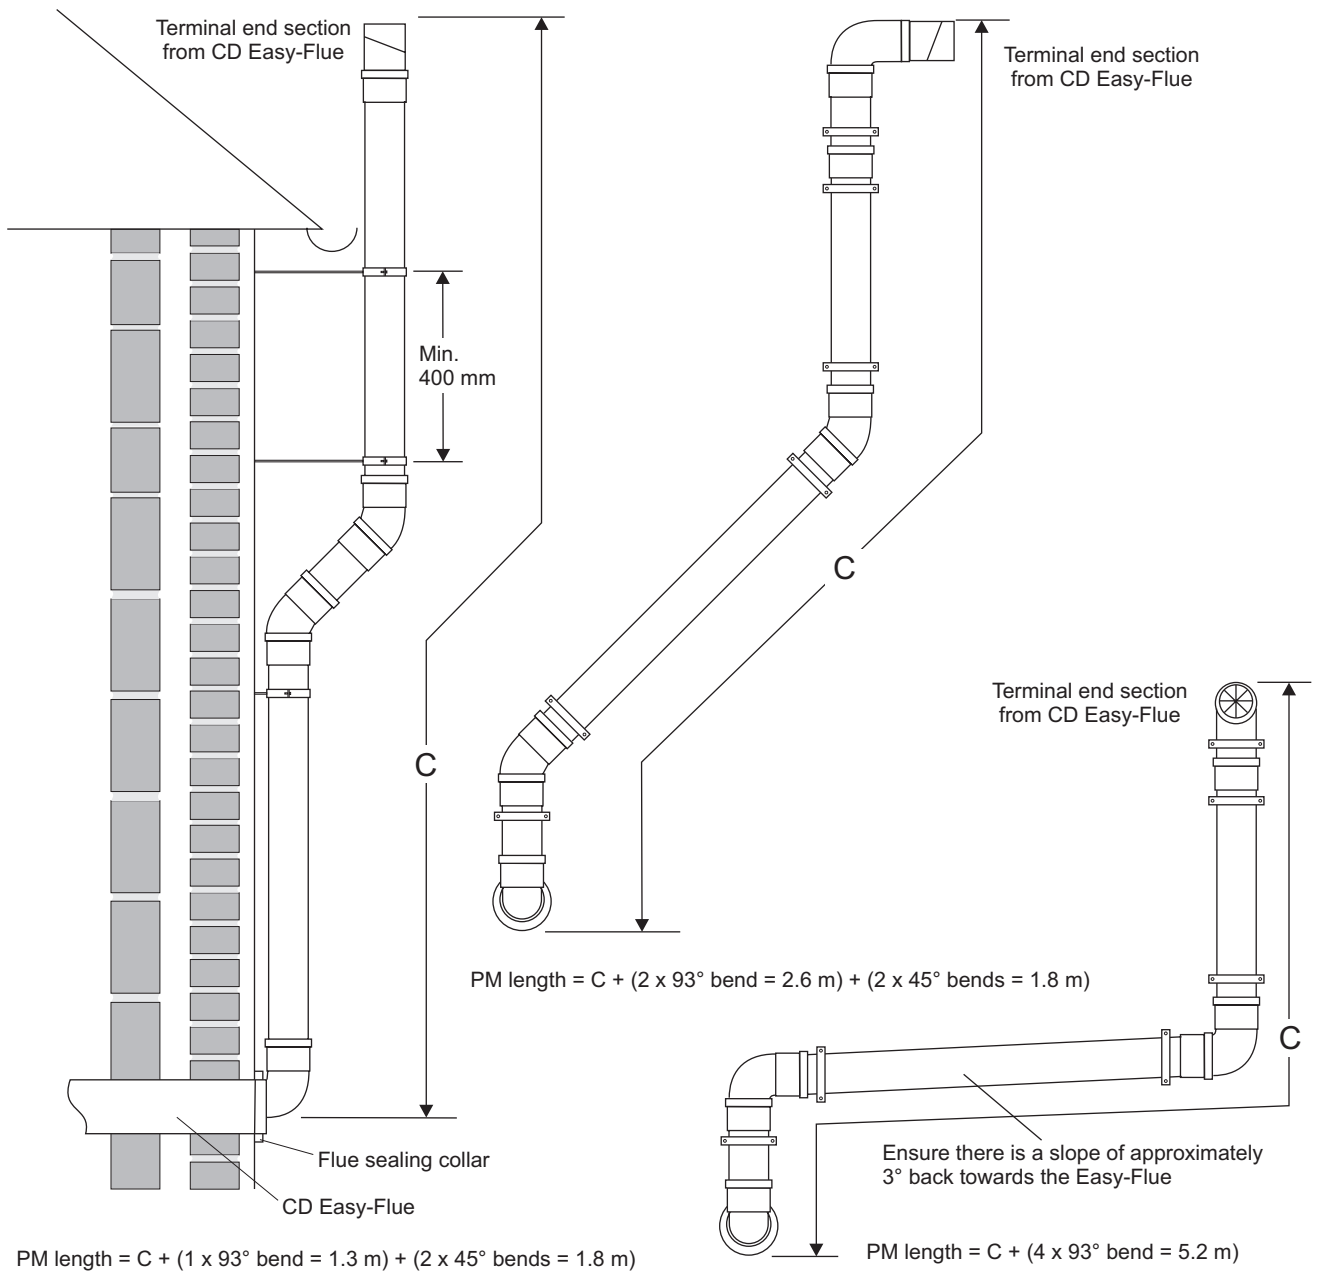

Fig. 4.12
- iv. Terminate the Plume Management pipework by fitting the terminal end section (push-fit) previously removed. Refer to Fig. 4.12.